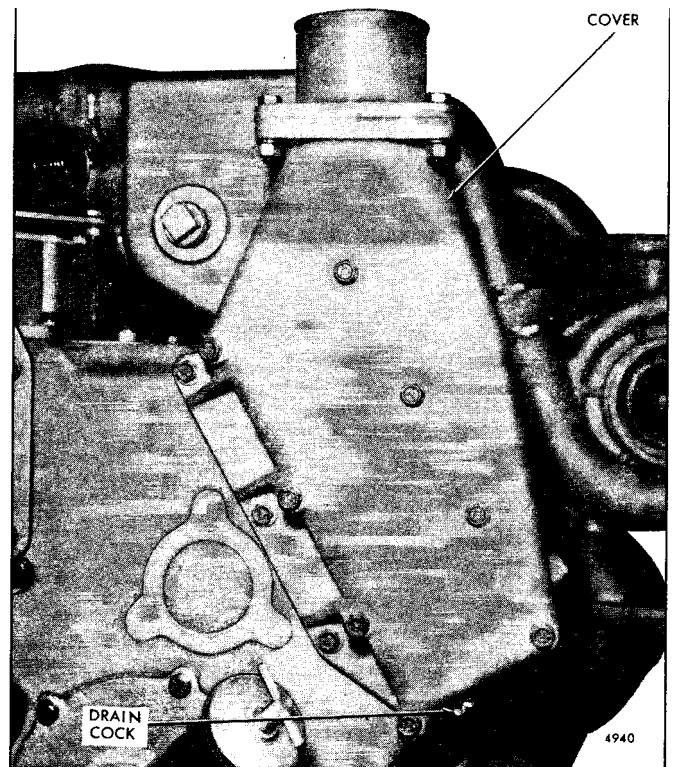

Fig. 5 - Thermostat Housing Mounting
1. Open the drain cock located at the bottom of each thermostat housing and drain the cooling system to that level (Fig. 5).